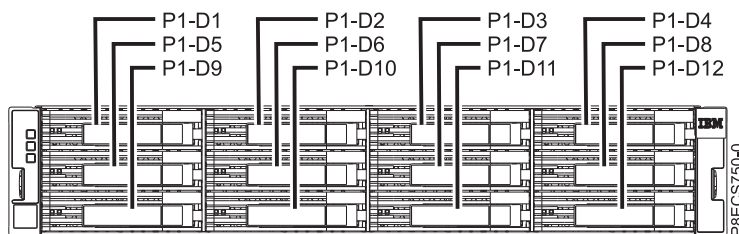
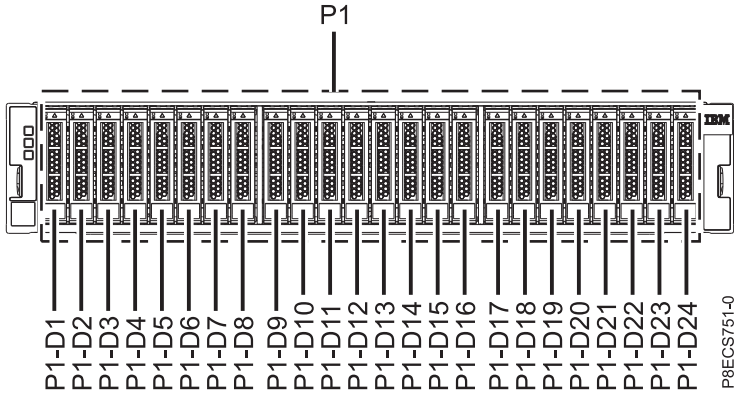
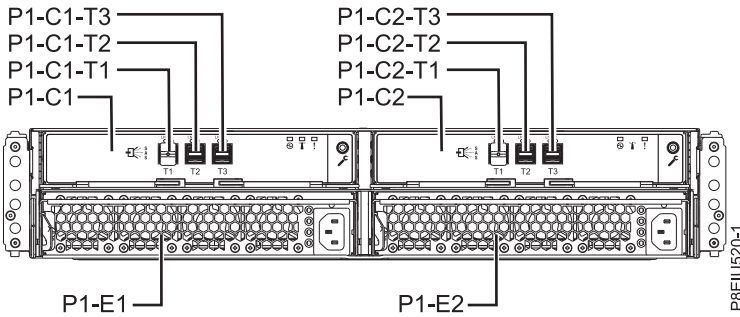
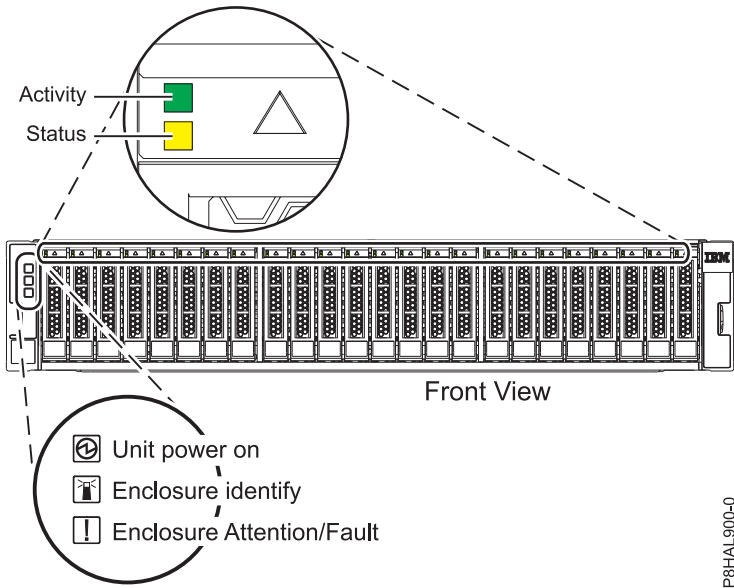

Figure 17. Front view of the ESLL storage enclosure showing the disk drive locations
Figure 18. Front view of the 5147-024 or ESLS storage enclosure showing the drive locations
Figure 19. Rear view of the storage enclosure
Figure 20. Front view of the storage enclosure showing the service indicators
1. Identify the part and the enclosure that you want to service. The disk drive and SSD slots are located in the front of the enclosure. Figure 17 shows the front of the ESLL storage enclosure, Figure 18 on page 16 shows the front of the ESLS storage enclosure, Figure 19 on page 16 shows the rear view of the storage enclosures, and Figure 20 on page 16 shows the locations of the service indicators for the enclosures.